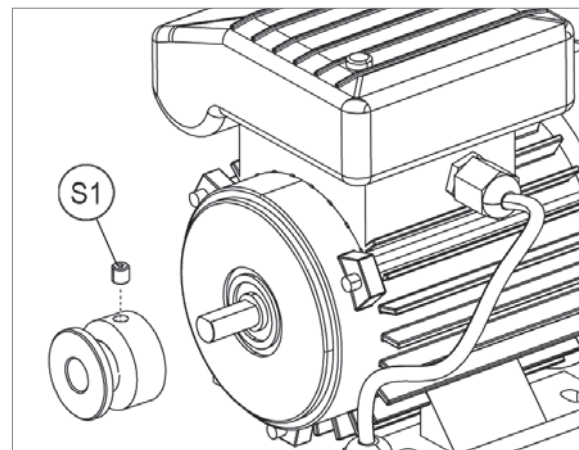

Fig. 47
- 9) Loosen the grub screw (S1) and remove the drive pulley (Fig. 47).